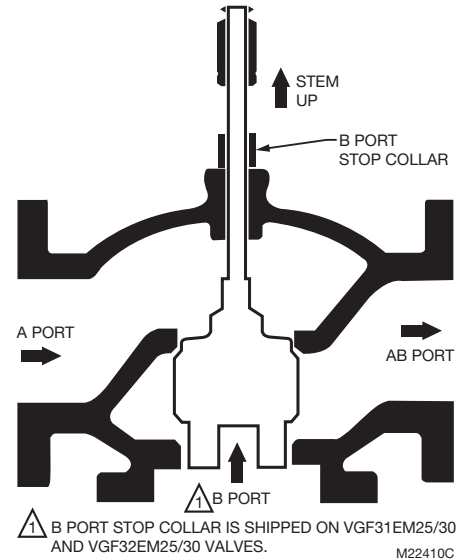

Fig. 21. VGF31EM mixing valve operation.
Figs. 21 and 22 show 3-way valves in the fully closed position, with no flow between the A port and AB port.
Mixing Valve (Fig. 21)
VGF Mixing Valves are assembled through the lower (B) port. The B port stop collar (see Fig. 21) holds the stem and plug assembly in the bonnet. Ensure the stem remains raised while servicing the valve or installing stem extensions. The stem collar provides a hard stop for direct-acting MP953 pneumatic actuators, and should not be removed.